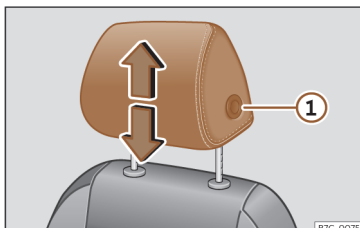
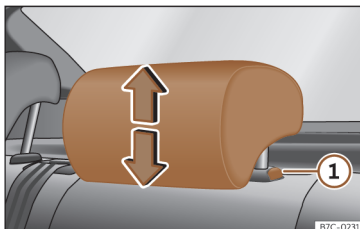

Fig. 70 Front seat: adjusting the head restraint.
Fig. 71 Rear headrest: adjusting the headrest.
- Grab the sides of the head restraints with both hands and push upwards to the desired position. To lower it, repeat the same action, pressing the button on the side **1** >>> **Fig. 70**, >>> **Fig. 71**.